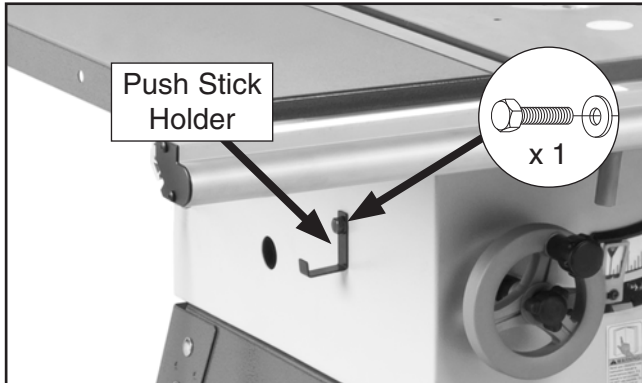

Figure 29. Push stick holder installed (switch and cords not shown for clarity).
32. Install the push stick holder with (1) M8-1.25 x 10 hex bolt and flat washer, as shown in **Figure 29**.